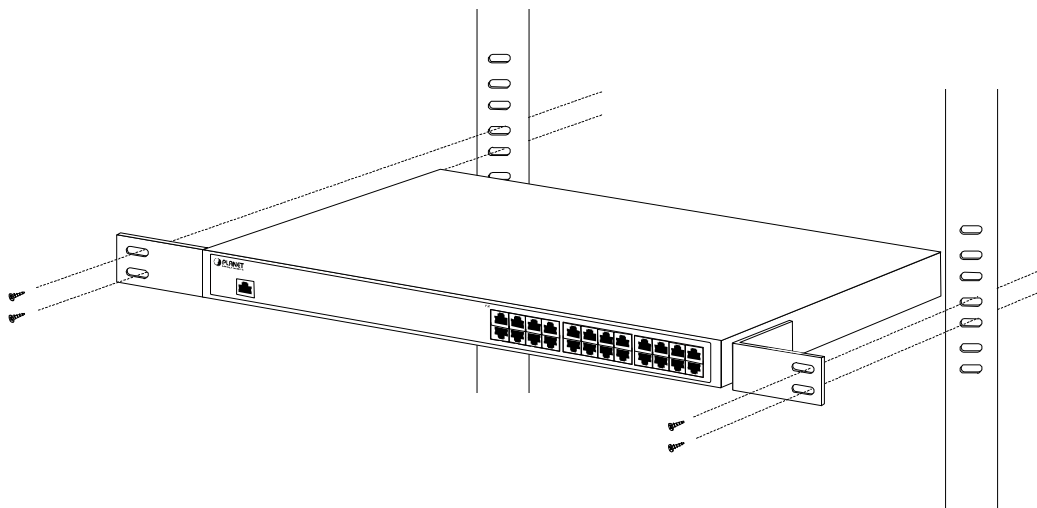

Figure 2-2-2: Mounting the PoE Injector Hub in a Rack
Step 5: After the brackets are attached to the Injector, use suitable screws to securely attach the brackets to the rack, as shown in Figure 2-2-2.